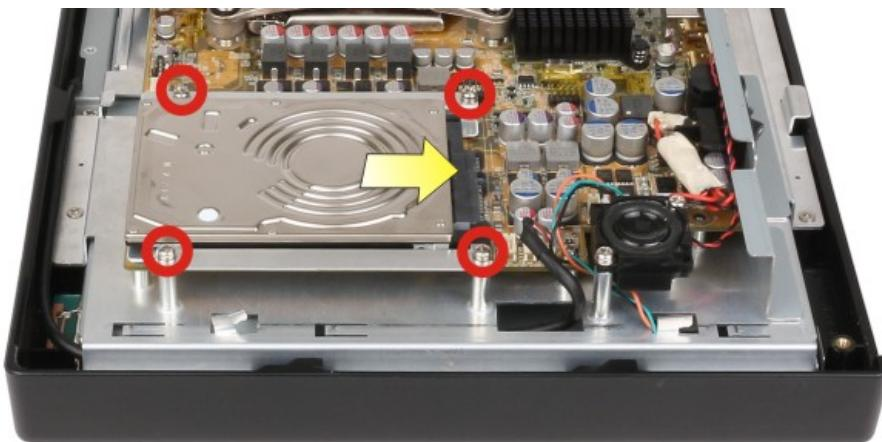

Figure 3-5: HDD Installation
Step 4: Align the SATA connector on the rear of HDD with the SATA connector on the motherboard, and then slide the HDD until it is connected to the SATA connector on the motherboard (Figure 3-5).
Step 5: Reinstall the four HDD bracket retention screws to secure the HDD bracket to the panel PC (Figure 3-5).